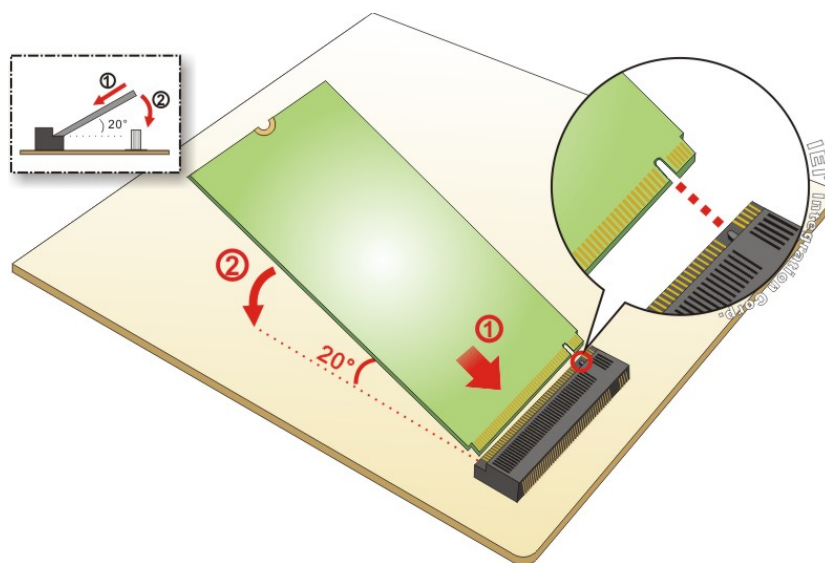

Figure 3-9: Inserting the M.2 Module into the Slot at an Angle
Step 3: Line up the notch on the card with the notch on the slot. Slide the PCIe Mini card into the socket at an angle of about 20° (**Figure 3-9**).